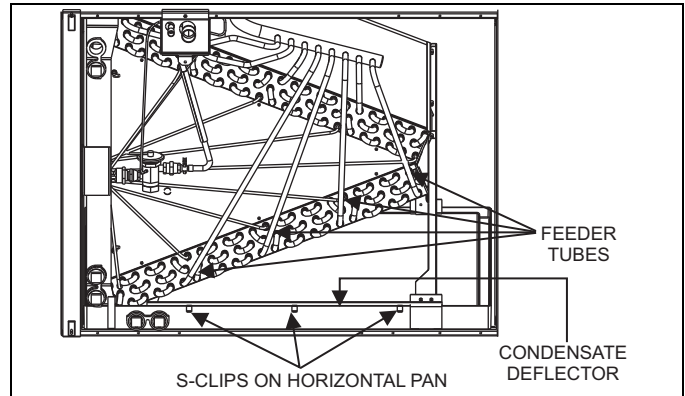

FIGURE 5: Condensate Deflector on Horizontal Drain Pan Edge
2. Refer to the unit rating plate for the air handler model number, and then see the dimensions page of this instruction for supply air plenum dimensions in Figure 5. The plenum must be installed according to the instructions.
For both horizontal applications, the condensate deflector should be positioned as shown in Figure 5.
Air supply and return may be handled in one of several ways best suited to the installation. See Figure 5 for dimensions for duct inlet and outlet connections.
The supply air duct should be properly sized by use of a transition to match unit opening. All ducts should be suspended using flexible hangers and never fastened directly to the structure. This unit is not designed for non-ducted (freeblow) applications. Size outlet plenum or transition to discharge opening sizes shown in Figure 5.
Air filters must be field supplied. A 1" filter access rack has been built into the unit. See Figure 5. Remove filter access cover shown. Install proper size filter. Standard 1" size permanent or throw away filter may be used, or, permanent washable filters are available using model numbers: 1PF0601, 602 or 603BK. See Table 2 for filter size.
Field supplied low voltage wiring can exit the unit on the top right hand corner or the right hand side panel. Refer to Figure 5.